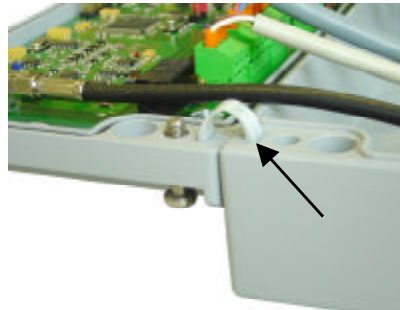

Fig. 3-2: Cover stay
- *To meet national code with respect to RF installations, each antenna feed line must be equipped with the supplied $\varnothing 28\ \text{mm} \times 20\ \text{mm}$ EMC ferrite ring core. The antenna line must be wrapped tightly around the EMC ferrite ring core at least 4 times. The distance between the Reader connection and the ring core should be no greater than 20 cm (see Fig. 3.2.-1).*